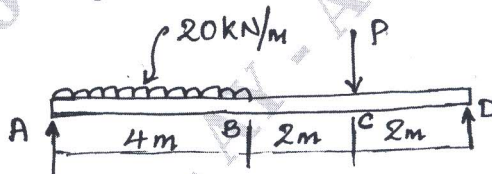

Fig.Q5
- 5 Fine the magnitude of load P such that magnitudes of support reaction shown in Fig.Q5 are equal. Also draw SF and BM diagram. (20 Marks)